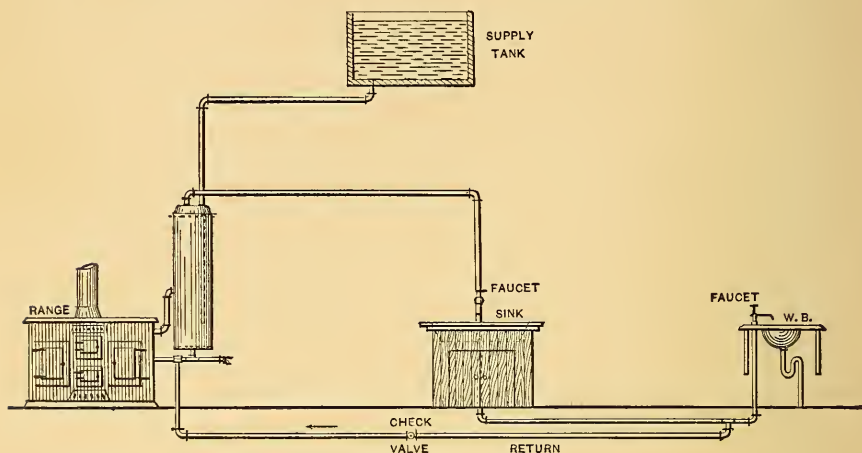
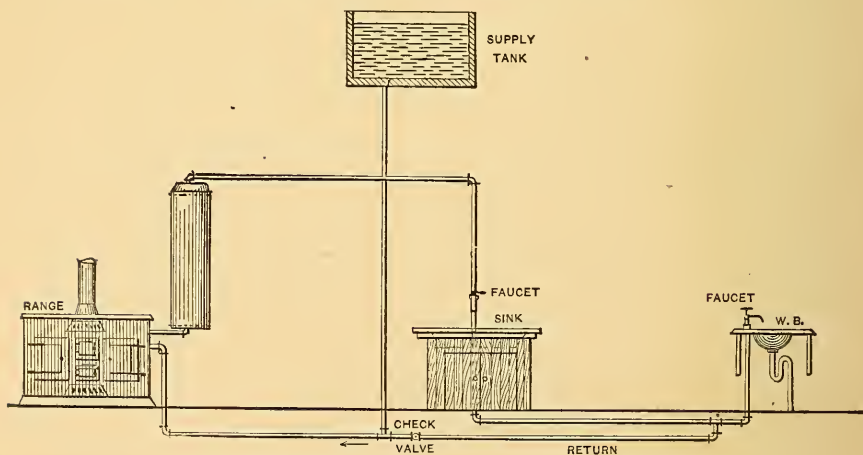

Fig. 1—The Original Arrangement of Pipes.
Fig. 2.—Arrangement Proposed by "J. M."
*From J. M., Odebolt, Iowa.*—I have a problem in some boiler and range connections, and would be thankful for any information that would lead to a solution of the problem. I inclose drawings of the work as it now is, Fig. 1, and as I think of rearranging it, Fig. 2 being the proposed alteration. I do not wish to change the work unless it will give better results than it does at present. My desire is to be able to draw hot water instantly when the hot faucet at the washstand is opened, instead of having to draw the dead water between the stand and the boiler first. It is to avoid this waste of water that I wish to em-
*Answer.*—The proposed plan shown in Fig. 2 can only be con-
sidered for its novelty and should not be put in practice, as it is open to many objections and would be a very slow heating arrangement. In Fig. 1 it would be quite possible to draw cold water at the wash-